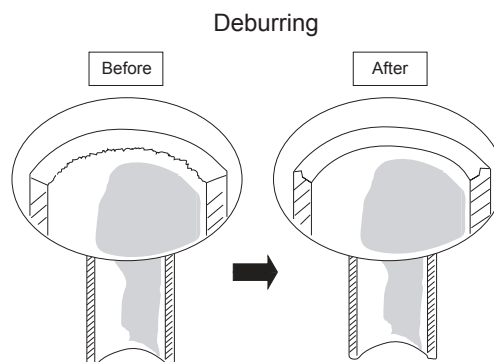
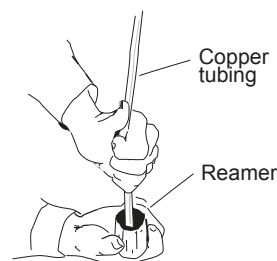

Fig. 2-5-1
Fig. 2-5-2
- (1) Cut the copper tube to the required length with a tube cutter. It is recommended to cut approx. 30 – 50 cm longer than the tubing length you estimate.
- (2) Remove burrs at the end of the copper tube with a tube reamer or a similar tool. This process is important and should be done carefully to make a good flare. Be sure to keep any contaminants (moisture, dirt, metal filings, etc.) from entering the tubing. (Figs. 2-5-1 and Figs. 2-5-2)
When reaming, hold the tube end downward and be sure that no copper scraps fall into the tube. (Fig. 2-5-2)